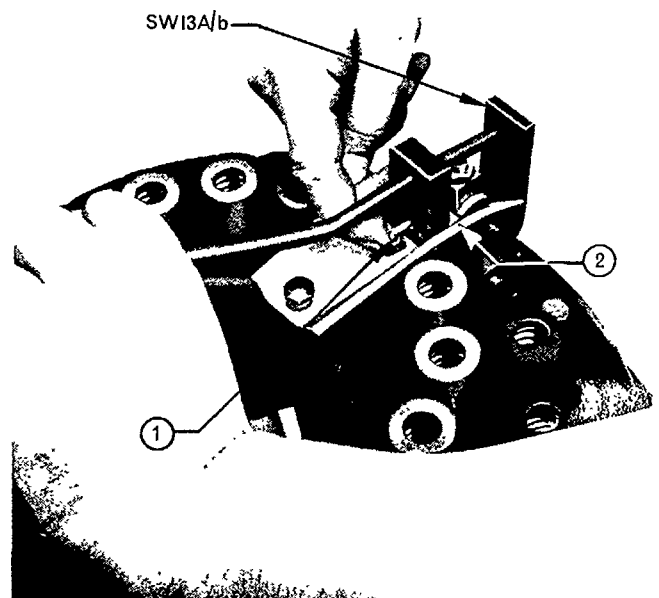
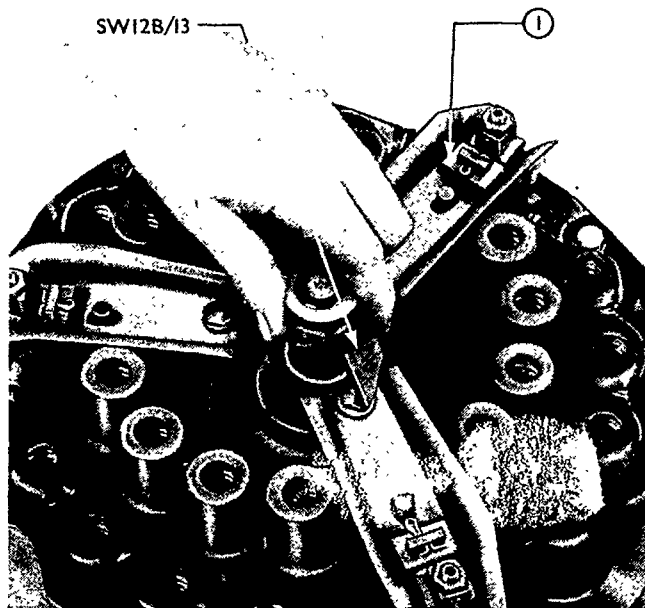

Figure 53
Figure 55
12. Install the release lever retaining clips over the fulcrum brackets of the clutch cover then install shims, Figure 55, above the clips and retain by inserting new cotter pins, Figure 53. Check that sufficient shims have been installed to eliminate any up and down free play of the clip. If necessary add shims until a slight preload exists when the cotter pin is installed.